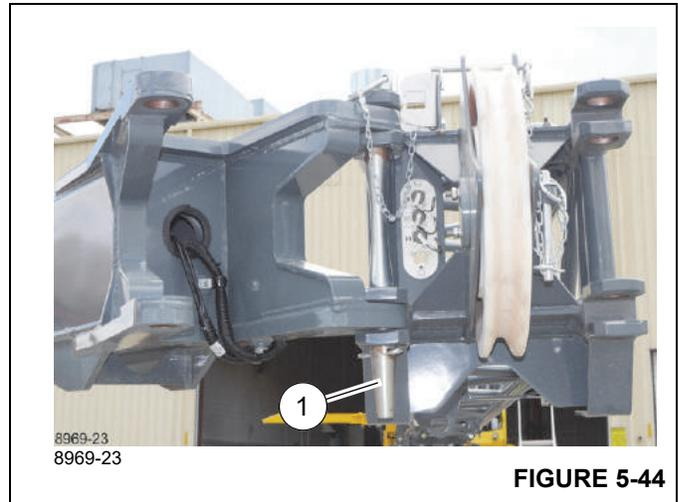

**FIGURE 5-42**
7. In the ODM, verify that the front and rear mounting pins are securely installed (Figure 5-42). Visually confirm that the pins are installed.